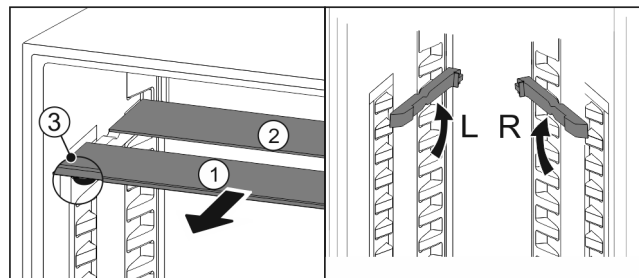

Fig. 141
- ▶ Pull the glass panels out Fig. 141 (1) from the front, one at a time.
- ▶ The glass panel Fig. 141 (1) with the trim strip is at the front.
- ▶ The stops Fig. 141 (3) point downward.